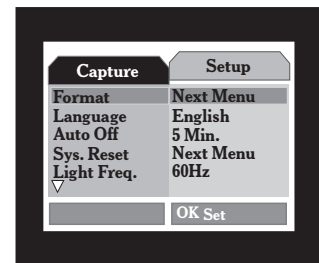

Fig. 9
- In the first menu, press and hold Menu/OK **H** to access the second menu; this offers similar selections in both Camera and Video modes. Refer to Figure 9.